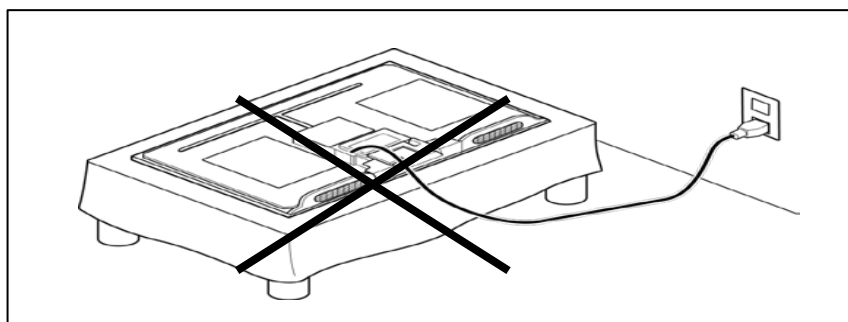

Figure 1.
- *It is not recommended to POWER ON when the panel is laid facing down during repair activity. Refer Figure 1.